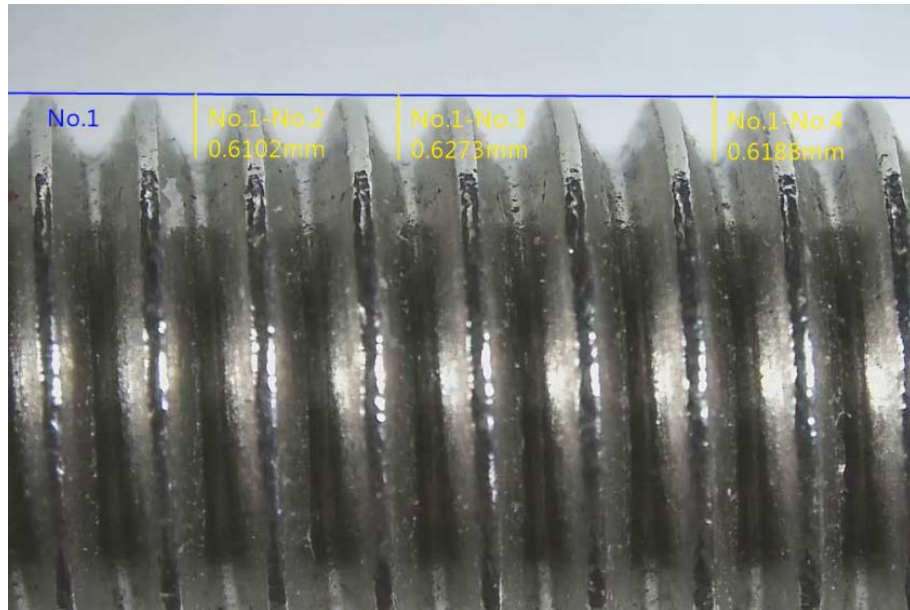

Fig.5-20 Measure the wave depth
(11) Perpendicular Line: Apply  to measure perpendicular, see Fig 5-20. Draw the 1st start line on the measuring object, then click mouse left button to draw perpendicular lines till the bottom of depth. Click Mouse right button for completion.